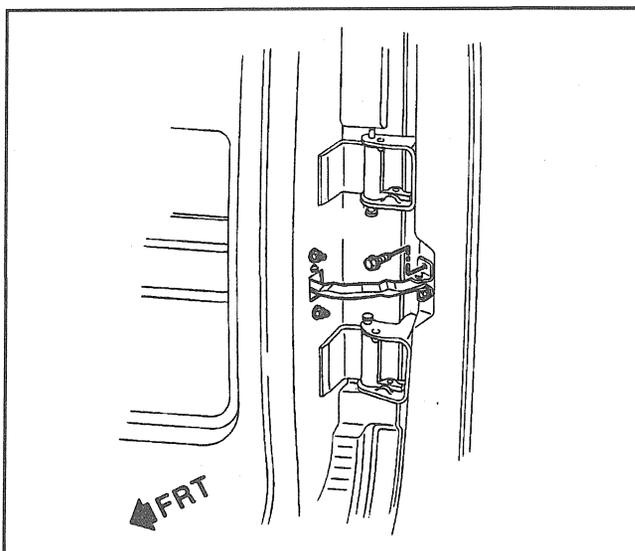

Figure 46—Check Strap Assembly.
**Remove or Disconnect (Figure 46)**
**Install or Connect (Figure 46)**